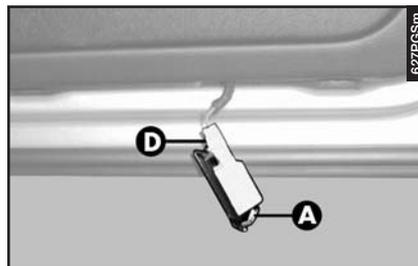

fig. 78
– Remove the light pushing with a screwdriver on the tab (**A-fig. 78**).
– Re-install the light inserting it firstly on one side (**D-fig. 78**) and then pushing on the other until the tab clicks.